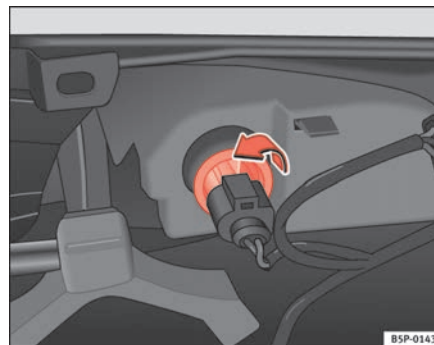

Fig. 189 Lamp on interior side of bumper
- Rotate the lamp holder to the left, and remove it in the direction of the arrow ⇒ fig. 189.